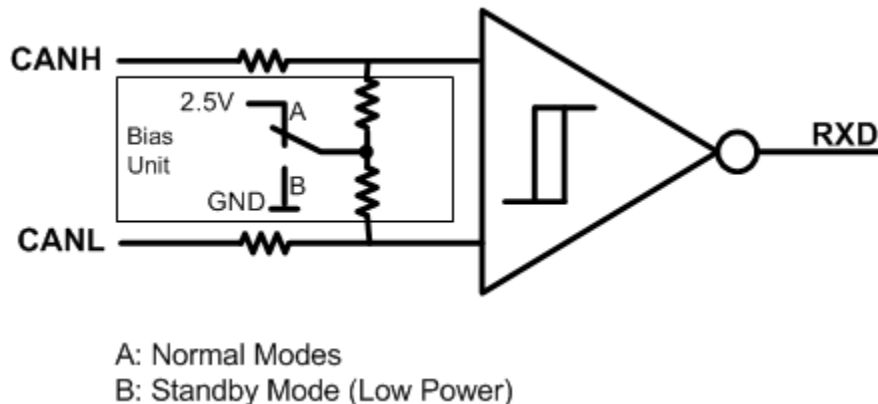

Figure 14. Bias Unit (Recessive Common Mode Bias) and Receiver
- (1) H = high level, L = low level, X = irrelevant, Z = common mode (recessive) bias to $V_{CC} / 2$. See and Figure 14 for bus state and common mode bias information.
(2) Devices have an internal pull up to V_{CC} or V_{IO} on TXD terminal. If the TXD terminal is open the terminal will be pulled high and the transmitter will remain in recessive (non-driven) state.